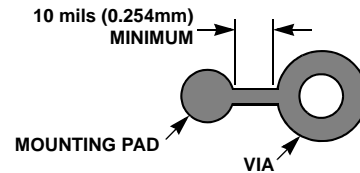

FIGURE 4. MOUNTING PAD TO VIA
- For dog-bone type via connections, vias connected to the PCB mounting pads using traces should have a minimum length of 10 mils (0.254mm) for the connecting trace and should not exceed 2/3 of the pad diameter for the via diameter. (See Figure 4.)